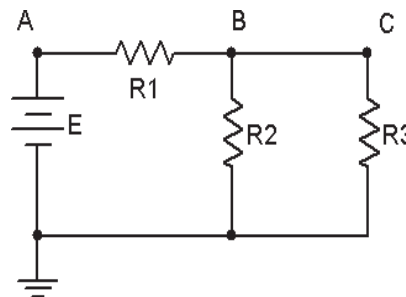

Figure 7.1
1. Consider the circuit of Figure 7.1 with  $R1 = 1\text{ k}$ ,  $R2 = 2.2\text{ k}$ ,  $R3 = 4.7\text{ k}$  and  $E = 10\text{ volts}$ .  $R2$  is in parallel with  $R3$ . This combination is in series with  $R1$ . Therefore, the  $R2, R3$  pair may be treated as a single resistance to form a series loop with  $R1$ . Based on this observation, determine the theoretical voltages at points A, B, and C with respect to ground. Record these values in Table 7.1. Construct the circuit. Set the DMM to read DC voltage and apply it to the circuit from point A to ground. Record this voltage in Table 7.1. Repeat the measurements at points B and C, determine the deviations, and record the values in Table 7.1.
- Build the circuit of Figure 7.1 in a simulator. Using the virtual DMM as a voltmeter determine the voltages at nodes A, B and C, and compare these to the theoretical and measured values recorded in Table 7.1.
3. How would the voltages at A and B in Figure 7.1 change if a fourth resistor equal to 10 k was added in parallel with R3? What if this resistor was added in series with R3?